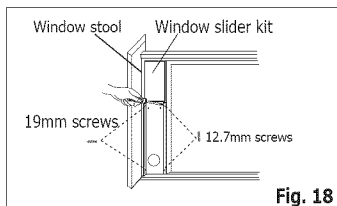

Fig. 18
3. Close the sliding sash securely against the window slider kit. (Fig. 18)
4. Drive two 12.7mm screws to secure the window slider kit to the window sash. (Fig. 18)
5. Drive two 19mm screws to secure the window slider kit to the window stool. (Fig. 18)